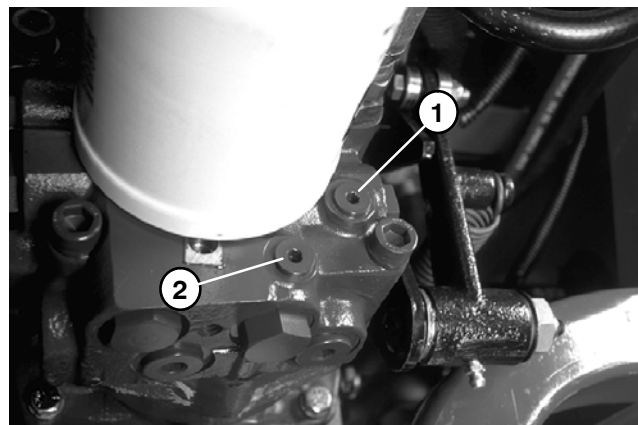

Figure 17
3. Connect a 5,000 PSI gauge to traction circuit test port for function to be checked (Fig. 17).